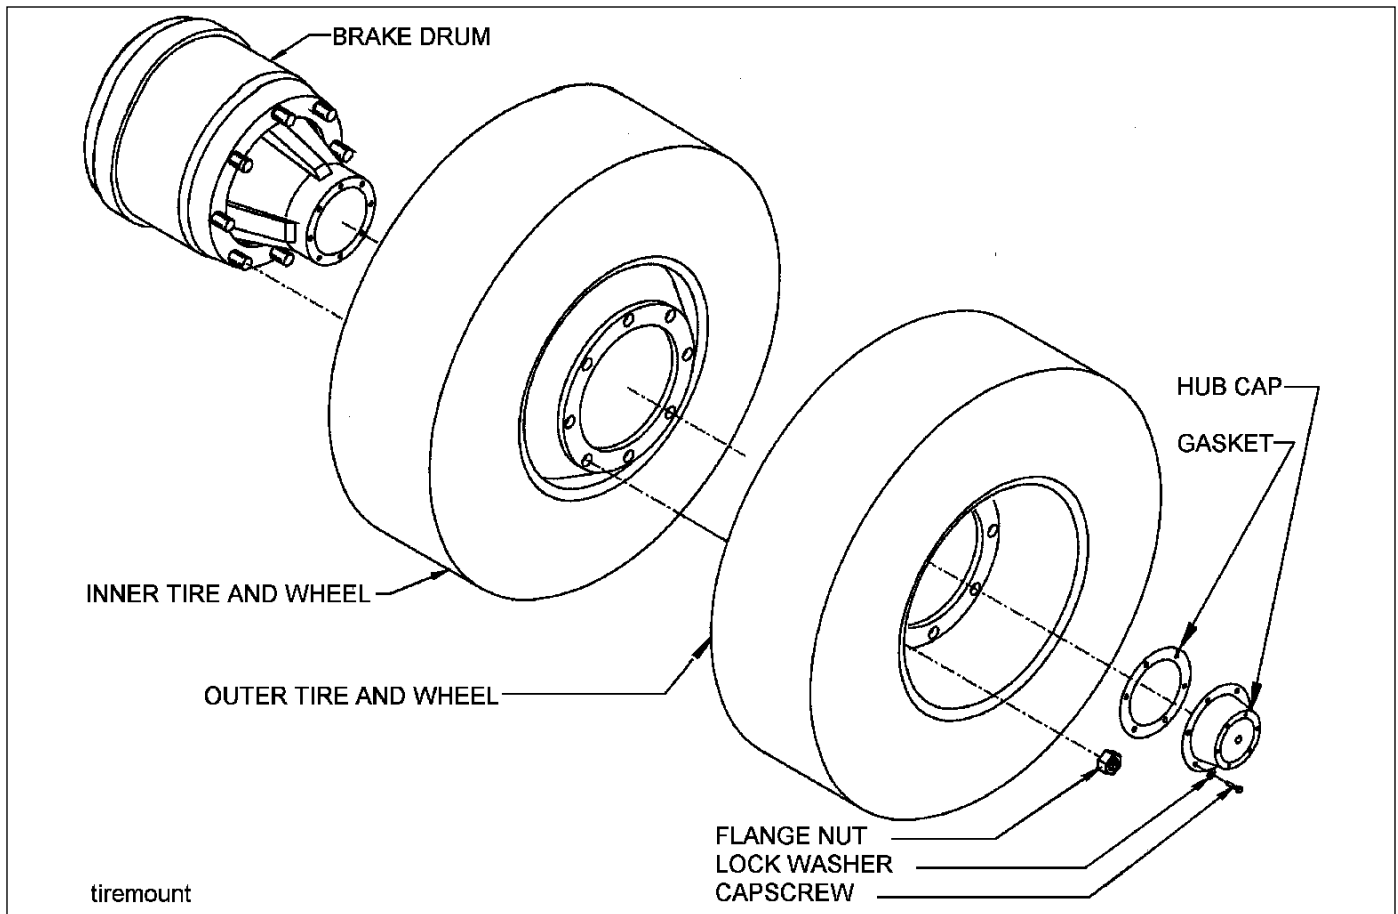

Figure 4-19: Mounting Tires and Wheels
1. Make sure that all mounting surfaces are clean and free of rust, dirt or paint. A wire brush may be used to clean these surfaces (See Figure 4-19)